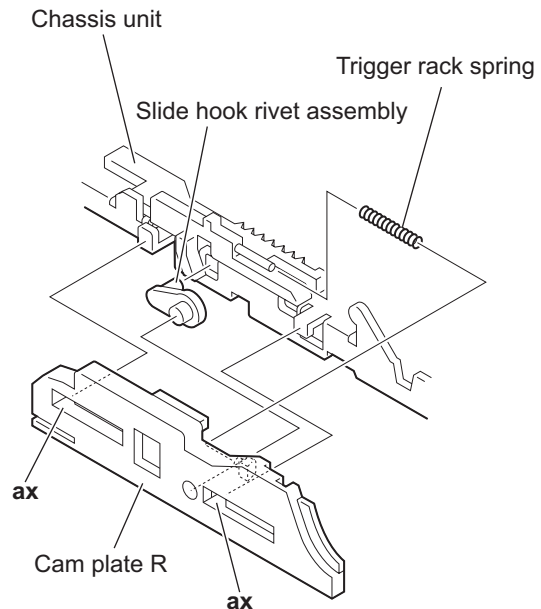

Fig.25
**(See Fig.25)**
**(See Figs.25 and 26)**
- Remove the slide hook rivet assembly and trigger rack spring from the chassis unit. (See Fig.25.)